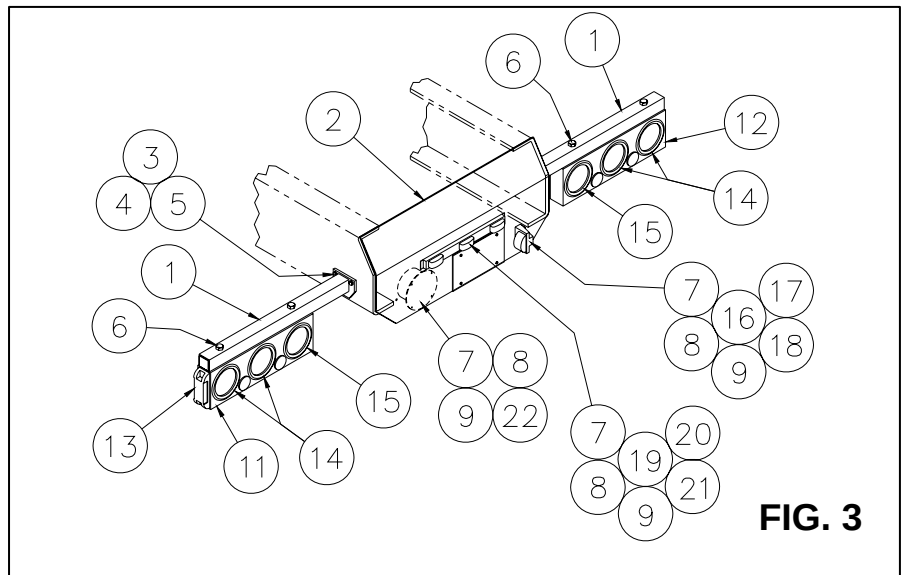

FIG. 3
7. Mount license lamp right of the license plate (See Fig. 2) using the fasteners provided (See Fig. 3).
8. Mount junction box on the back left side of center plate (See Fig. 2), using the fasteners provided (See Fig. 3).
5. Install the roller [Part No. 10H12] between the brackets with the roller axle [Part No. 10H31] and the fasteners provided (See Fig. 3). Grease the rollers before use.